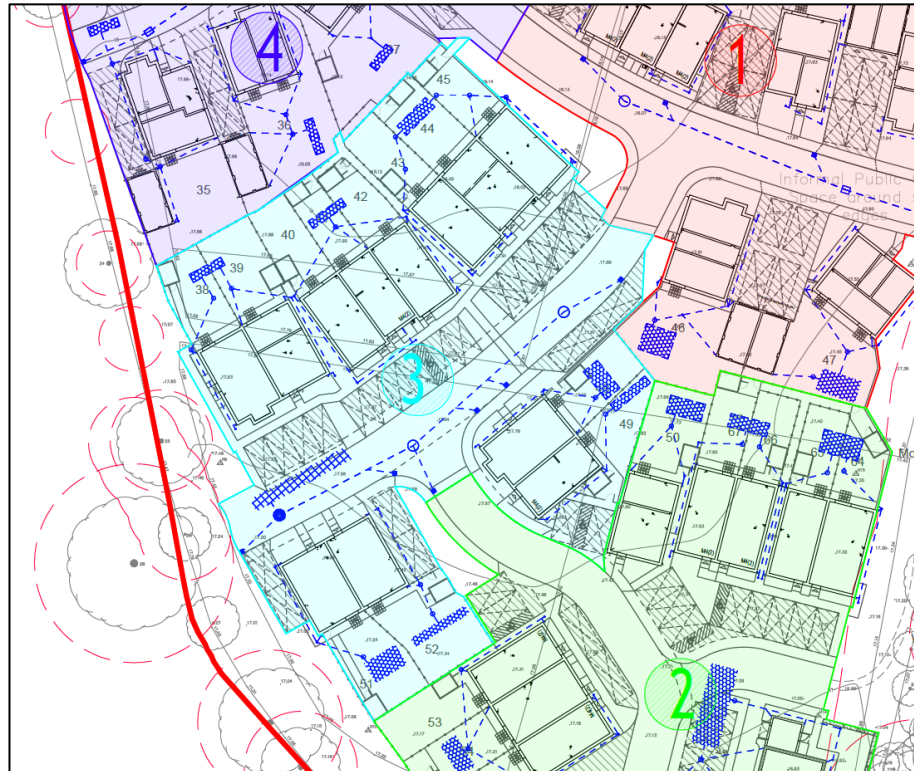

Figure 2- Site extent of Area 3
- 1.10 **Figure 2** shows the extent of Verification Area 3, comprising of 12 dwellings and associated roads.